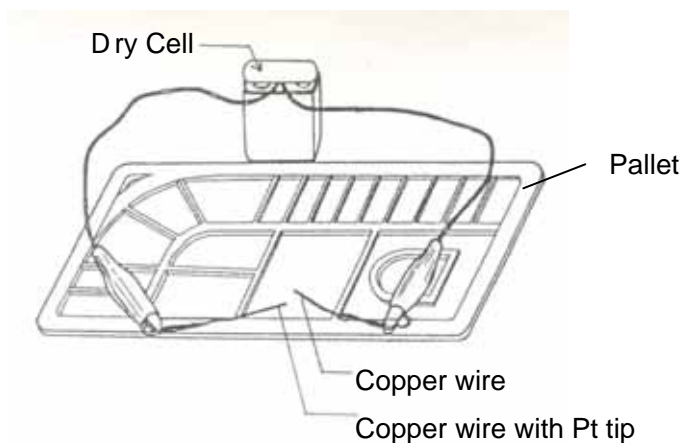

Fig 1. Simple Electrolysis Apparatus
- 2 Simple electrolysis apparatus is shown in Fig 1.